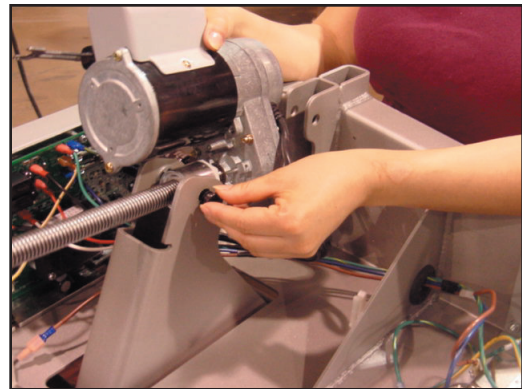
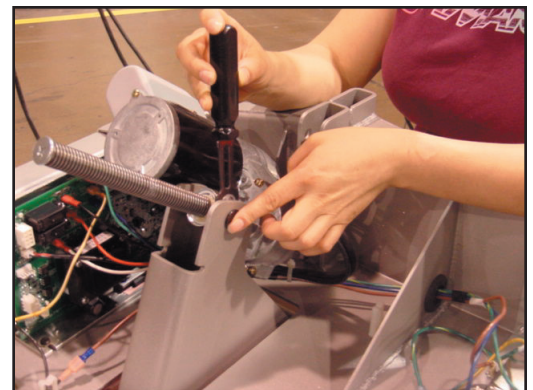

Figure 5
Figure 9
- 2.6 Grab the body of the Actuator and flip over allowing access to the left Elevation nut to remove (see Figure 5).
- 3.6 Flip the Actuator over to access the left side, than attach the Elevation nut and E-Ring clip. See Figure 5 and Figure 9.